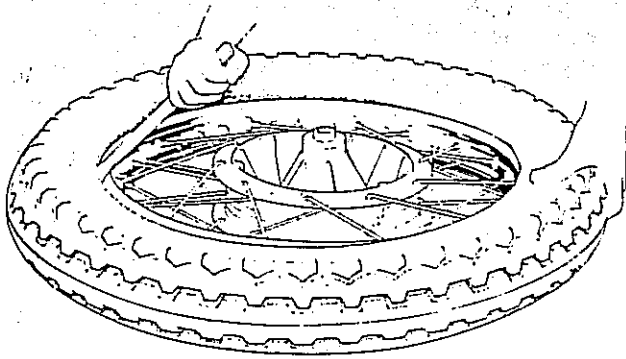

Fig. H18 Levering close to valve whilst pressing opposite bead down into rim
- 6 Insert the first lever between the tire valve and rim at the valve position, press the opposite side of the tire down into the rim well and apply leverage (see Fig. H18).
- 7 Insert the first lever between the tire valve and rim at the valve position, press the opposite side of the tire down into the rim well and apply leverage (see *Fig. H18*).